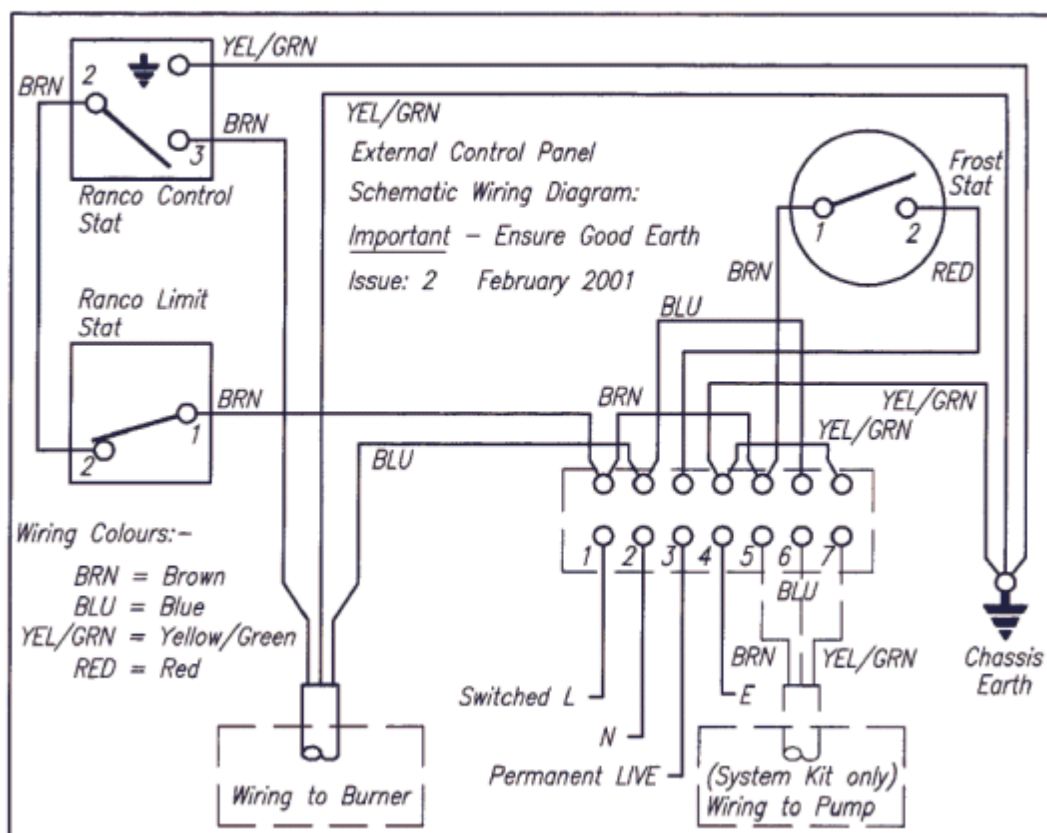

Fig. 4:11 Wiring Diagram.
1. Insert the Boiler Control Stat 8mm Plain Phial into a pocket on the top of the Boiler Heat Exchanger as shown in Fig. 4:10b.
2. Insert the Limit Stat 8mm Coiled Phial into the second pocket on the top of the Boiler Heat Exchanger. See Fig. 4:10b.